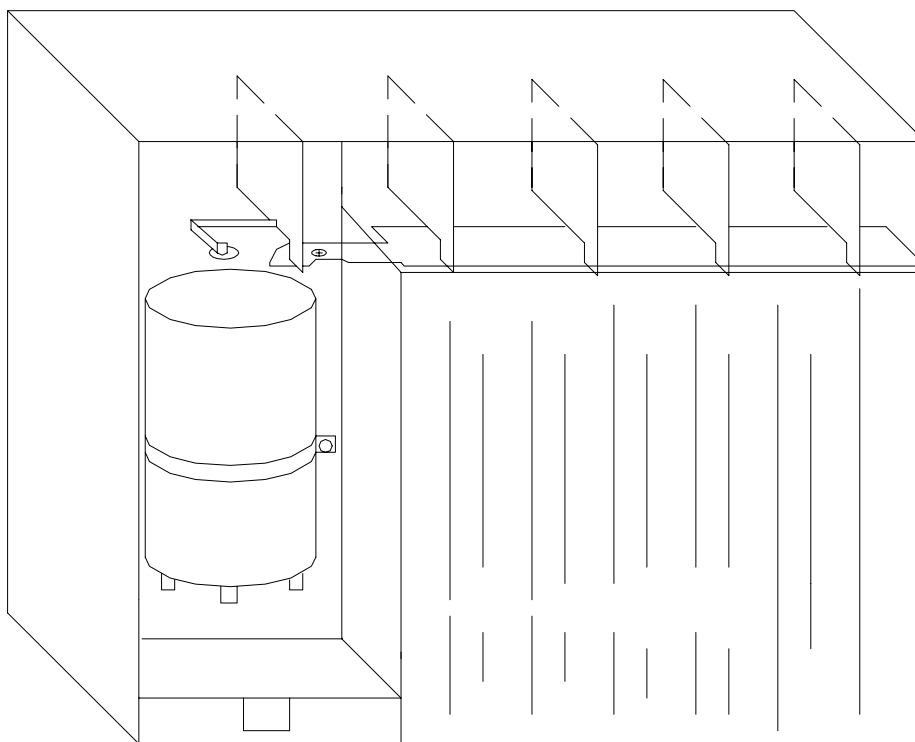
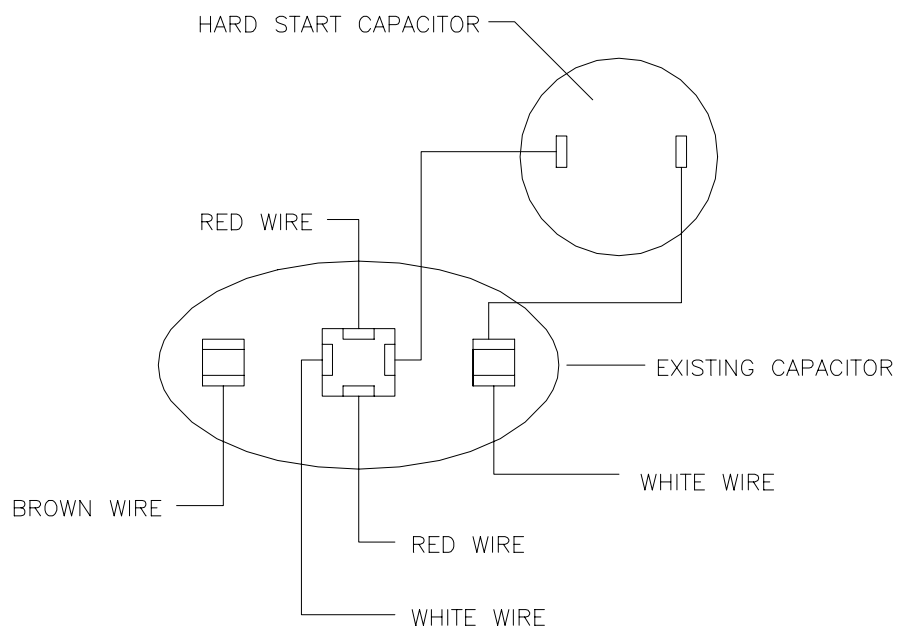

Figure 3-23 ECU Cover Plate Removed to access the Starting Capacitor
Figure 3-24 ECU Hard-Start Kit Wiring Diagram
5. Remove the screws that fasten the control panel plate to the chassis (see Figure 3-23).
6. Remove the nut that fastens the louver base to the chassis (see Figure 3-23).
7. Disconnect the air sweep mechanism connected to the louver motor cam (see Figure 3-23).
10. The ECU starting capacitor is located behind the control panel (see Figure 3-23). The starting capacitor has three terminals, a brown wire is connected to the first terminal, two red wires and one white wire are connected to the center terminal, and one white wire is connected to the third terminal (see Figure 3-24).
11. Connect one lead of Hard-Start Kit to the terminal with the single white wire, and connect the other lead of the Hard-Start Kit to the terminal with the two red wires and one white wire, as shown in Figure 3-24.